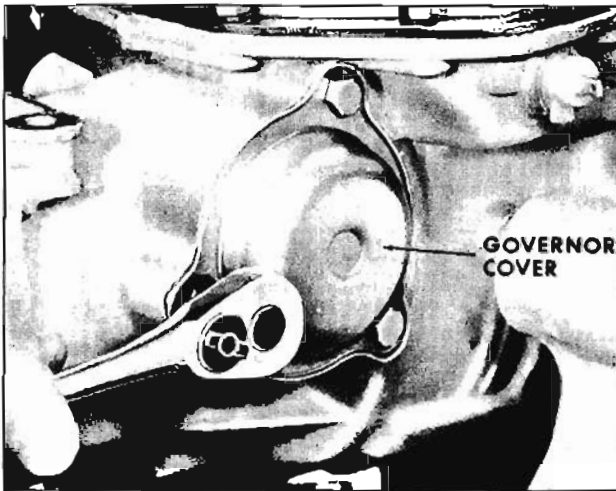

Fig. 6-282 Removing Governor Cover
1. Remove three attaching bolts retaining governor cover to case using a 1/2" socket. Remove cover and gasket. (Fig. 6-282)